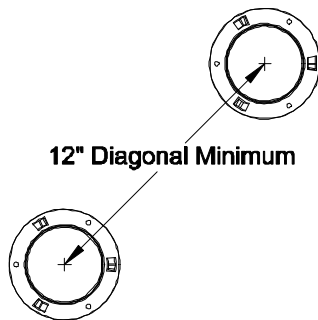

Figure 2.2
5. The second hole location is recommended to be spaced a minimum of 12" diagonally from the first hole location. Mark this location with a pencil. (See Figure 2.2)